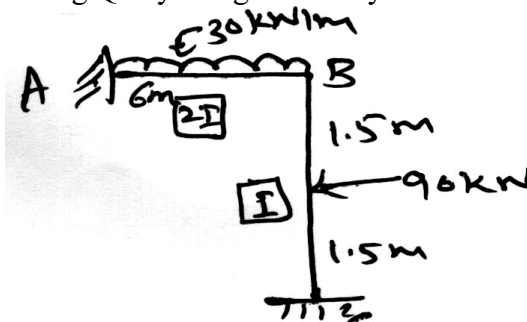

Fig Q8
- 8 Analyse the frame shown in Fig Q8 by using flexibility matrix method.